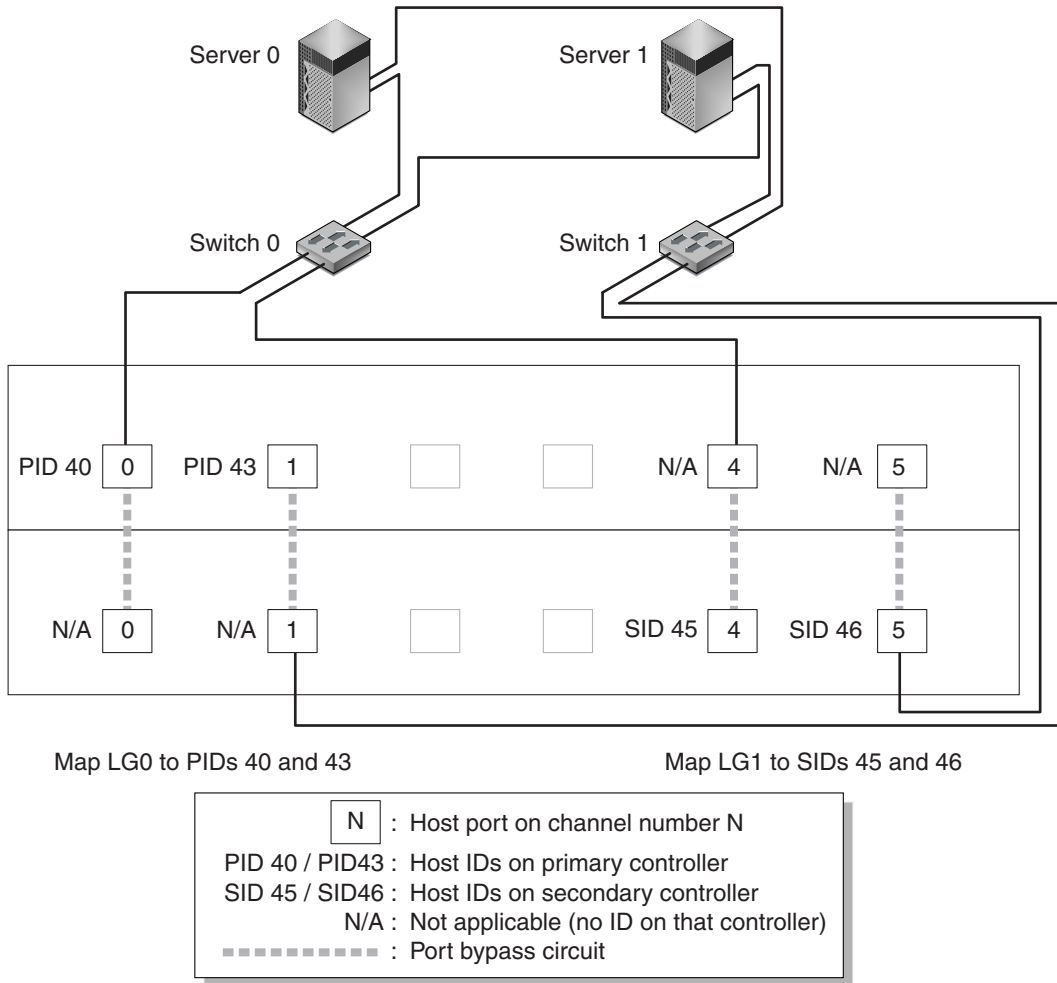
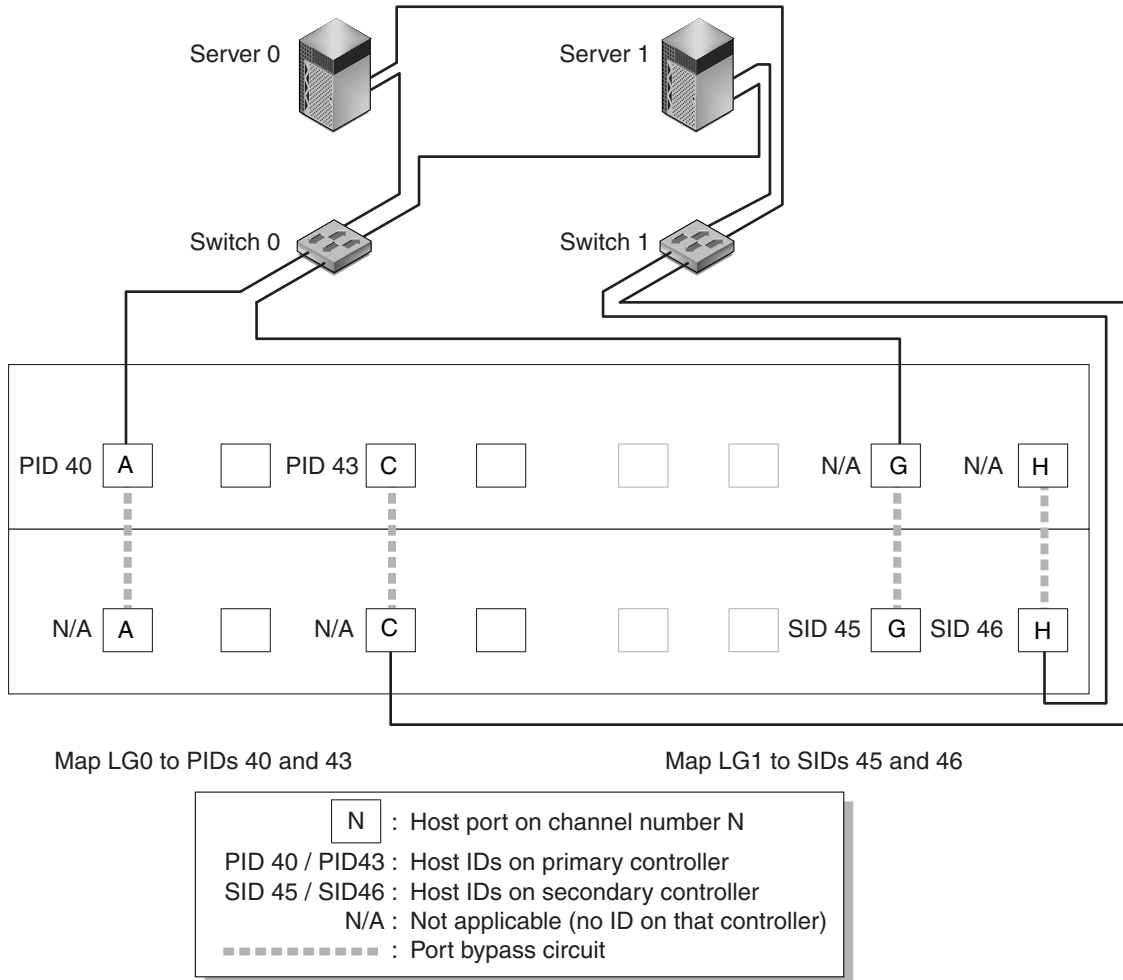

FIGURE 5-1 A Point-to-Point Configuration with a Dual-Controller Sun StorEdge 3510 FC Array and Two Switches
FIGURE 5-2 A Point-to-Point Configuration With a Dual-Controller Sun StorEdge 3511 FC Array and Two Switches
- If you have two switches and set up multipathing (to keep all logical drive connections operational for any switch failure or the removal of any I/O controller module), ensure that each logical drive is mapped to two ports, one on each I/O controller module, and on two channels. The cables from the two ports mapped to each logical drive must be cabled to two separate switches. See FIGURE 5-1 and FIGURE 5-2 for examples of this configuration.
In FIGURE 5-1 and FIGURE 5-2, with multipathing software to reroute the data paths, each logical drive remains fully operational when the following conditions occur:
TABLE 5-1 summarizes the primary and secondary host IDs assigned to logical drives 0 and 1, based on FIGURE 5-1 and FIGURE 5-2.
Perform the following steps, which are described in more detail later in this manual, to set up a typical point-to-point SAN configuration based on FIGURE 5-1 and FIGURE 5-2.